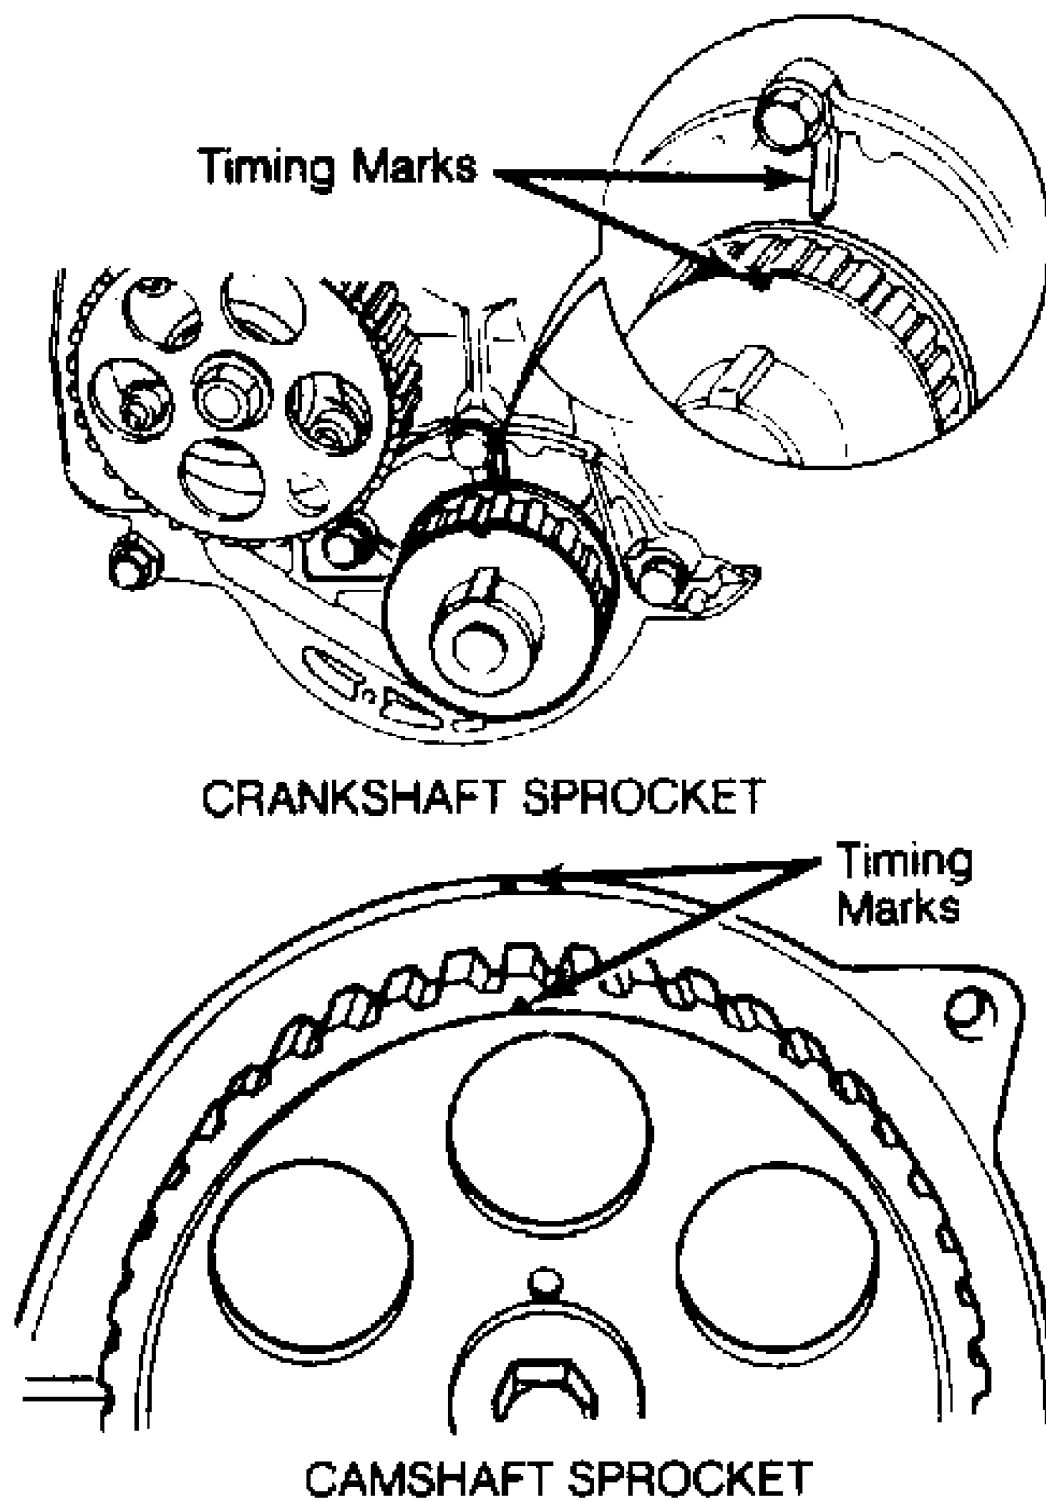

Fig. 7: Aligning Timing Belt Sprockets on 2.0L & 2.3L Models
3) Rotate crankshaft until mark on timing sprocket aligns with mark on front oil seal retainer. Rotate camshaft sprocket until timing mark aligns with mark on front plate. Ensure No. 4 cylinder is at TDC on compression stroke. See Fig. 7.